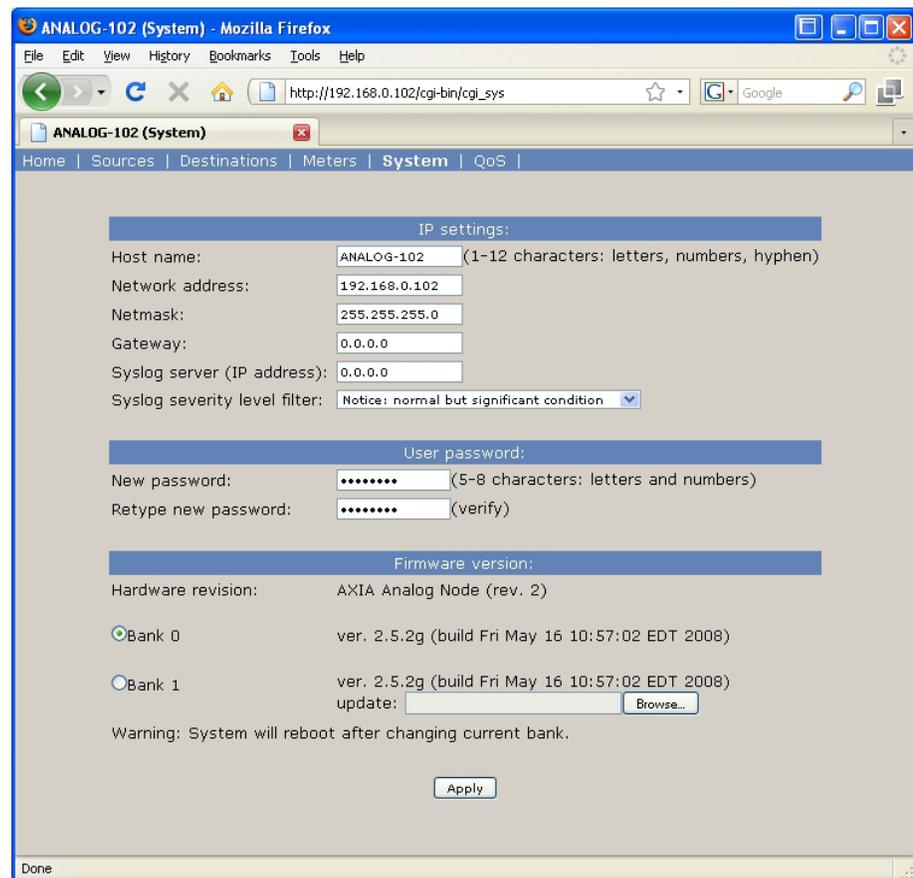

Figure 3-8: 8x8 Node - System Page
The System Parameters page, shown in Figure 3-8, allows configuring the node's IP address and related settings. It also permits choosing between a primary and secondary bank of software and to download new software into the secondary bank. The currently running software version is displayed here as well. You must click the **Apply** button for changes to take place.
- Click on **Commit this version to Bank 0** box (see Figure 3-8).